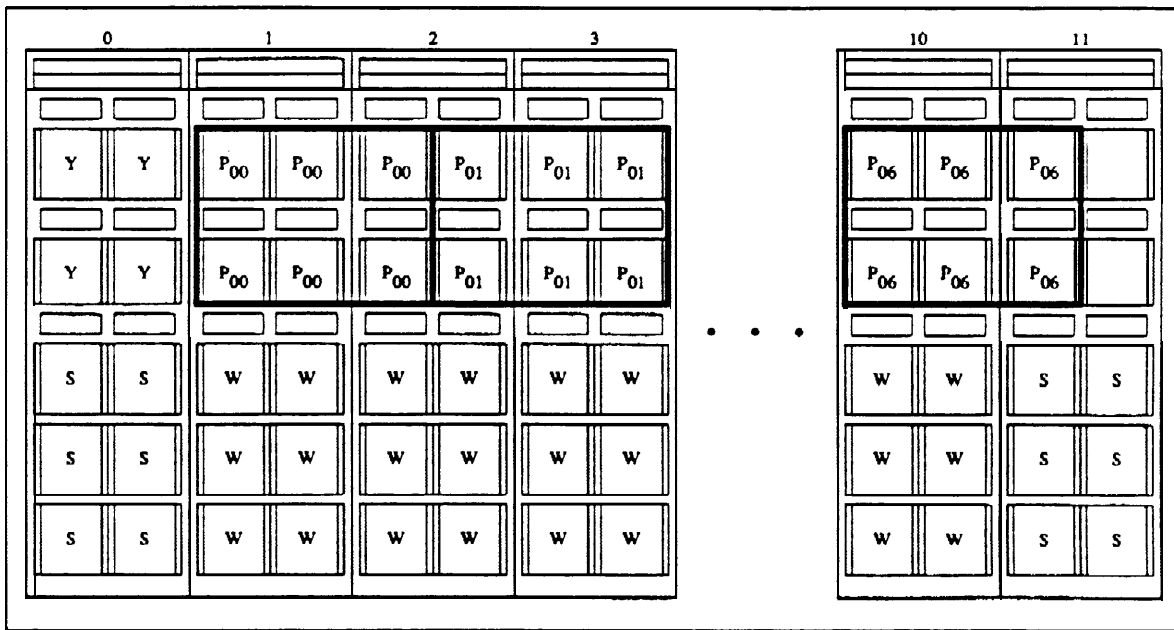

Figure 10-1. 7-Module System Wall-Mounted on Type-1 Frames
- *Wall-mounted frames.* Figure 10-1, *7-Module System Wall-Mounted on Type-1 Frames*, shows a possible arrangement for a type-1 wall-mounted configuration requiring 12 frames. Although it has significant room for the white field, it has little room for expansion of the purple field. Expansion would require the use of very long jumpers and would exceed the jumper capacity of frames. This configuration is not recommended.